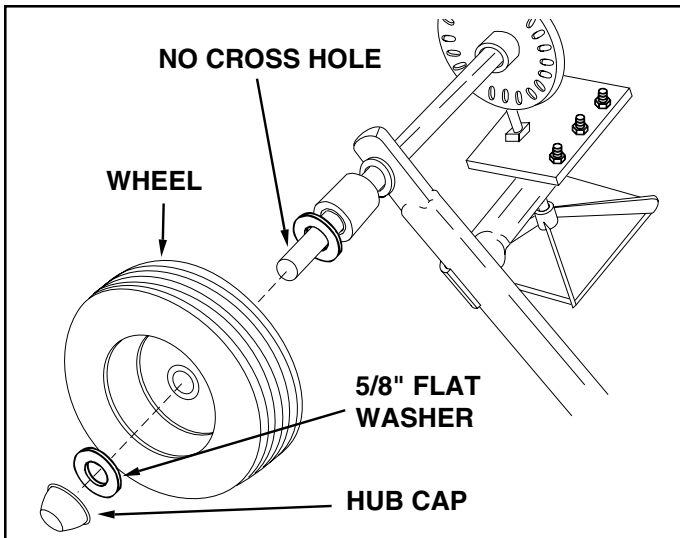

FIGURE 2
- 3. Place a wheel onto the end of the axle that has no cross hole. The long end of the hub goes to the inside. See figure 2.
- 4. Place a 5/8" flat washer onto the axle and then lightly tap a hub cap onto the axle until it is snug against the washer and wheel hub. See figure 2.